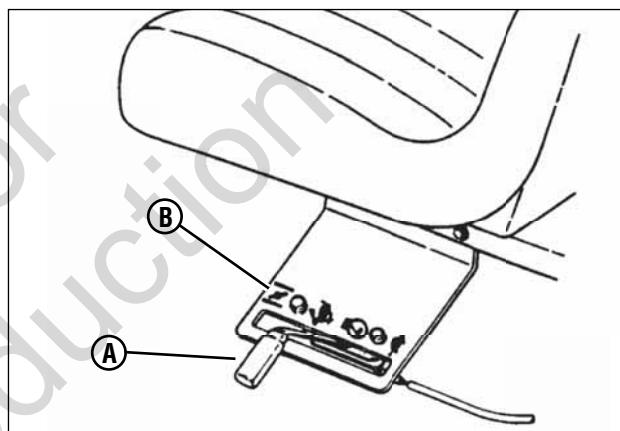

Figure 6: Engine speed control
4. Move the engine speed control (A, **Figure 6**) to the choke position (B) to start a cold engine.
4. Move the engine speed control (A, Figure 6) to the choke position (B) to start a cold engine.